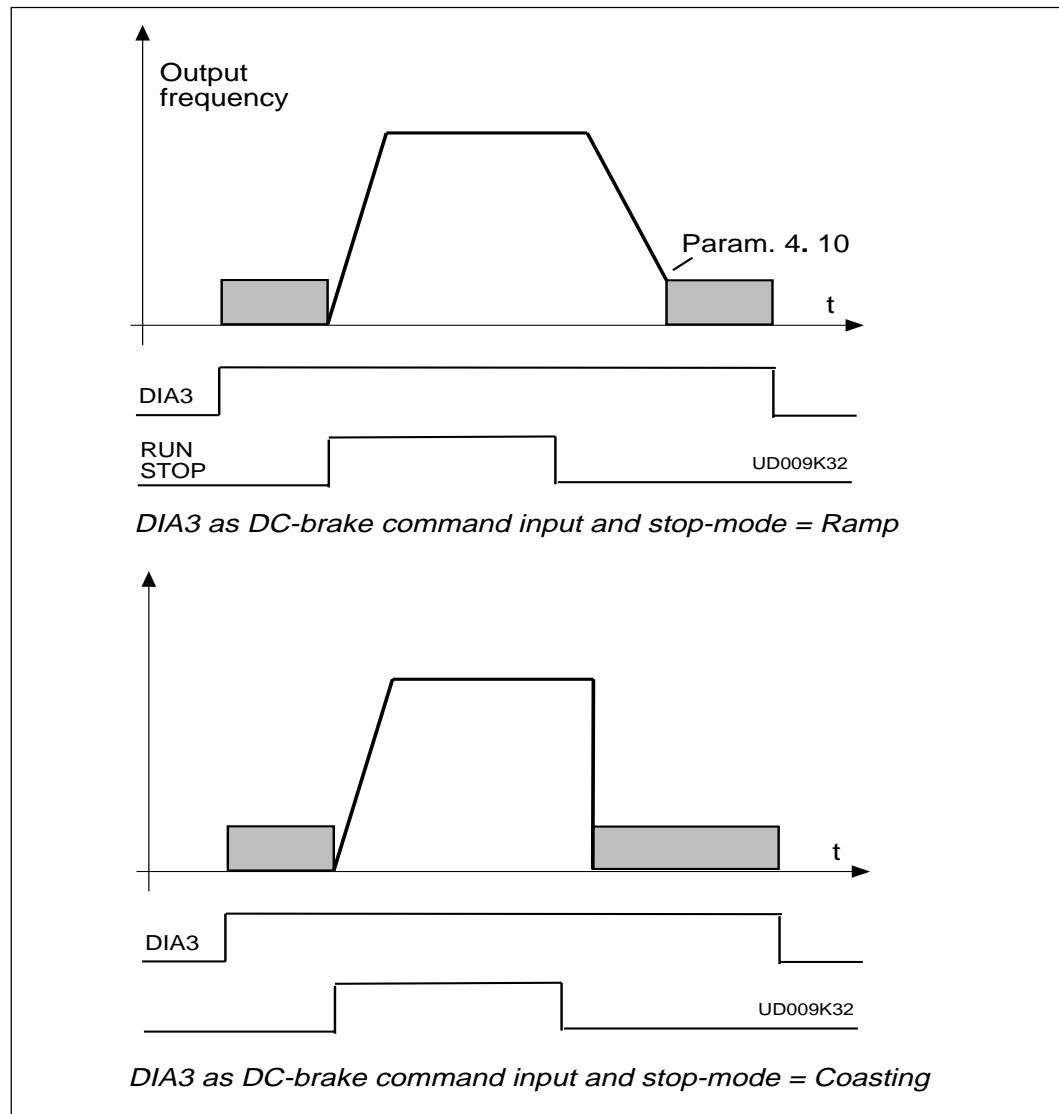

Figure 2.5-4 DIA3 as DC-brake command input: a) Stop-mode = Ramp,
- 9:** DC-braking command contact closed = In the stop mode, the DC-braking operates until the contact is opened, see figure 2.5-4. Dc-brake current is set with parameter 4. 8.